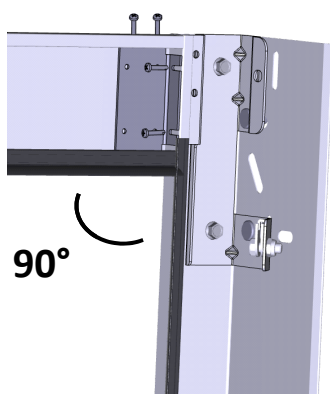

Figure 8 – top/right hand corner: connection of the lintel on the vertical angle
- 3** Use the lintel profile (ref SG207T1) as a spacer between both vertical sets, at their very top ends. Lintel Profile should be pre cut at the desired length. First check that the installation brackets (ref SG209T0) have been pre-assembled at both ends of the lintel. You can now use self-drilling screws (ref WI154WS) to assemble the lintel profile together with the vertical sets. Make sure the connections are 90° (see figures 8 & 9) and the lintel is tightly fitted to the vertical angles.